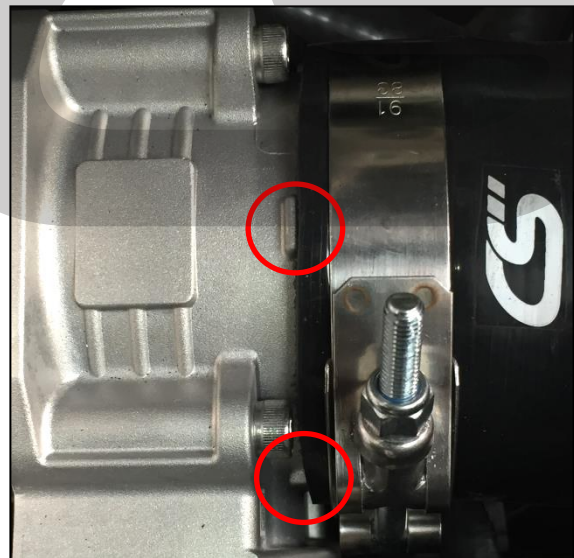

Figure 4b
- c) Attach the throttle body inlet silicone using supplied T-bolt clamp. Ensure silicone is fully seated on tabs of CS throttle body. Tabs shown with red circles in Figure 4b.
Only two tabs can be seen in Figure 4b. There are 4 tabs around the edge of the TB.